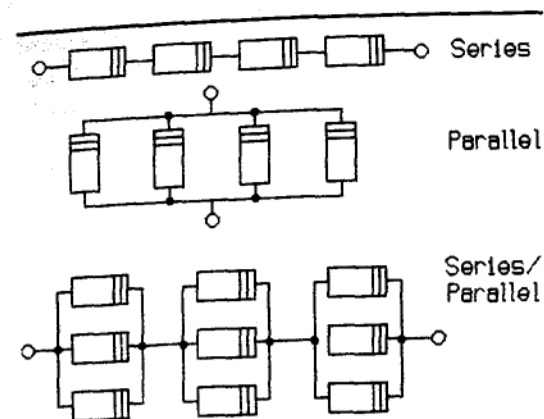

FIGURE 2-2: Types of connections.
**PARALLEL AND SERIES CONNECTIONS.** You can make connections to electronic parts in **series**, in **parallel**, or a combination of the two. This is easier to illustrate (Fig. 2-2) than to explain.